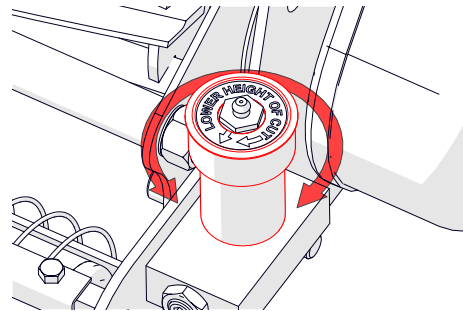

Fig.9D - Adjust the cut height adjuster (FT).
6. **FT models** - Manually turn the cut height adjuster to alter the height (Fig. 9D). It adjusts in quarter turn 'clicks' of 0.25mm increments. Therefore a full rotation of the adjuster raises or lowers by 1mm.
6. Manually turn the cut height adjuster to alter the height (Fig. 9D). It adjusts in quarter turn 'clicks' of 0.25mm increments. Therefore a full rotation of the adjuster raises or lowers by 1mm.